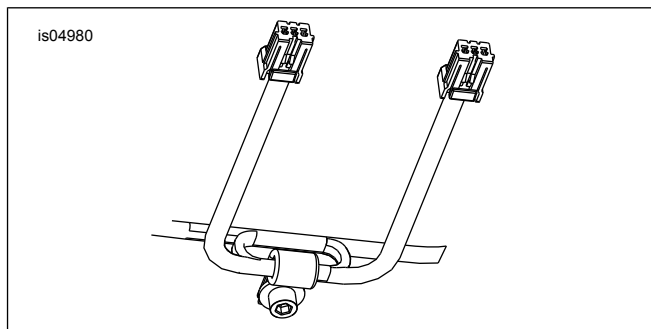

Figure 7. Routing the Wires
12. See Figure 7. Route the wires behind the fork tubes. Feed both signal wires through the P-clamp in the direction opposite that from which they originated, so the wire is heading back toward its own turn signal lamp.